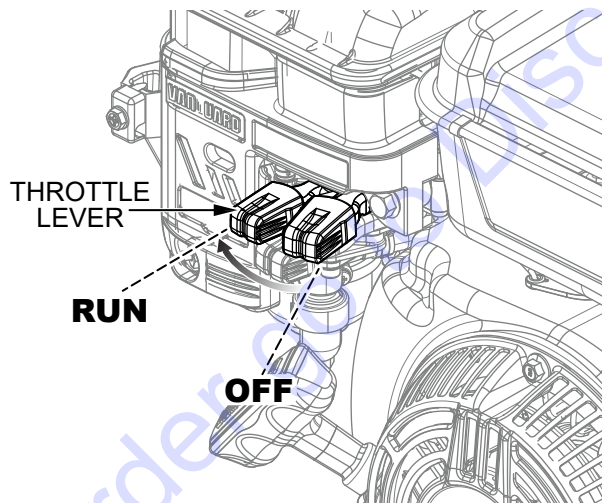

Figure 28. Engine Throttle Lever (Run)
2. Make sure the engine throttle lever (Figure 28) is in the **RUN** position.